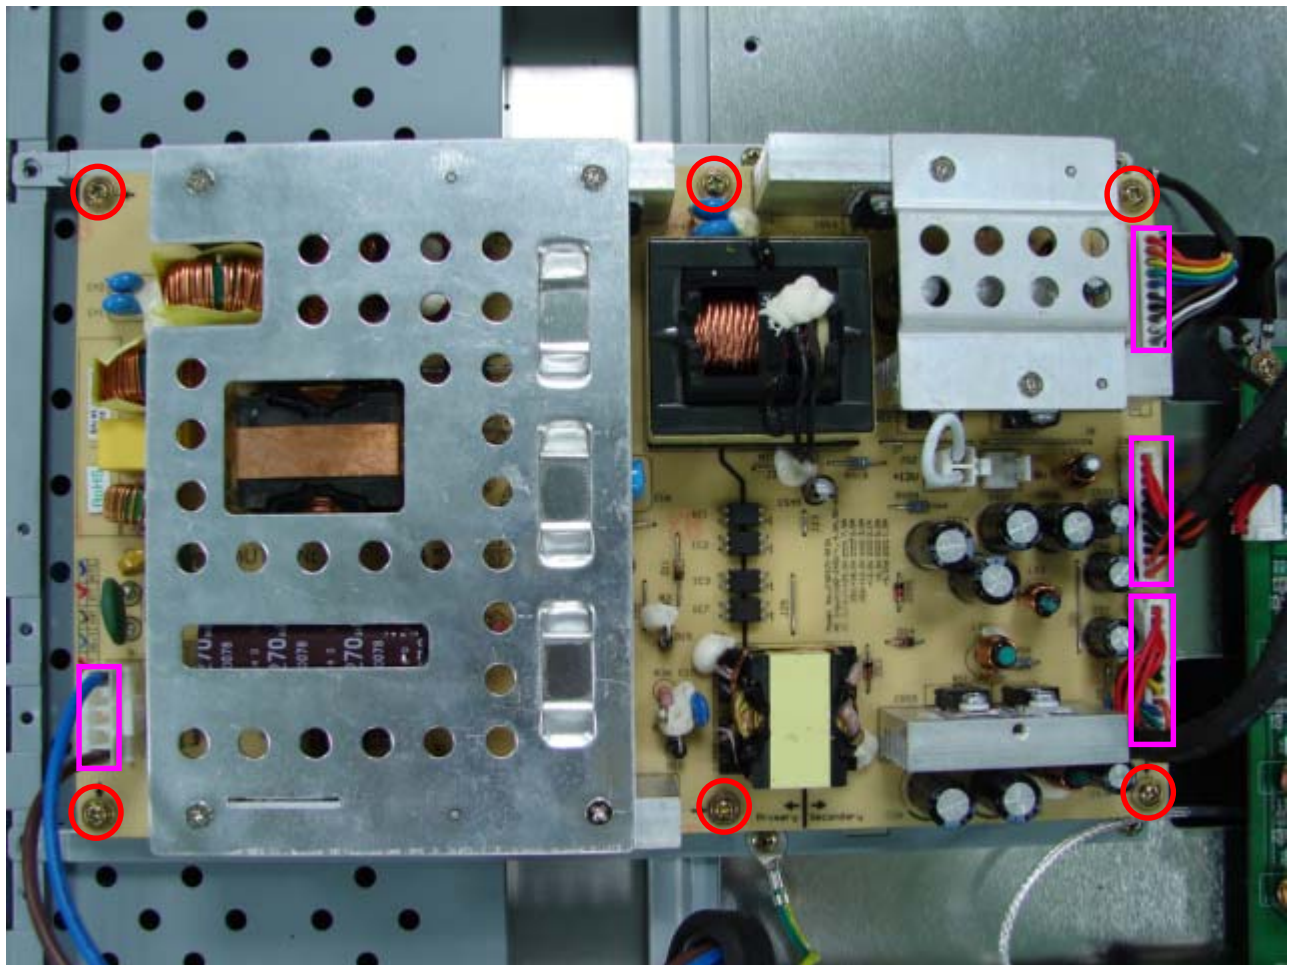

Fig.1
2. Loosen 6 screws from Power Board then remove it (Fig.1).